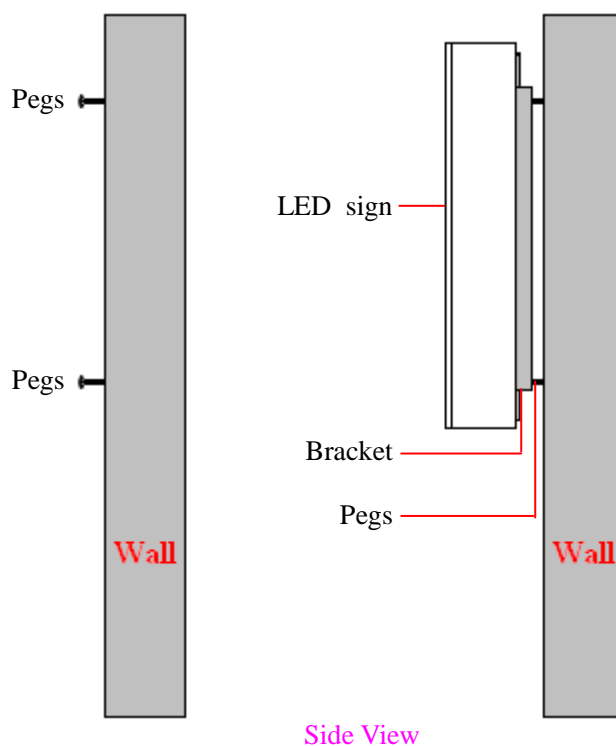

Fig4.16 Wall mounting I
- 5) Hanging sign onto wall by pegs as fig4.16 shows.